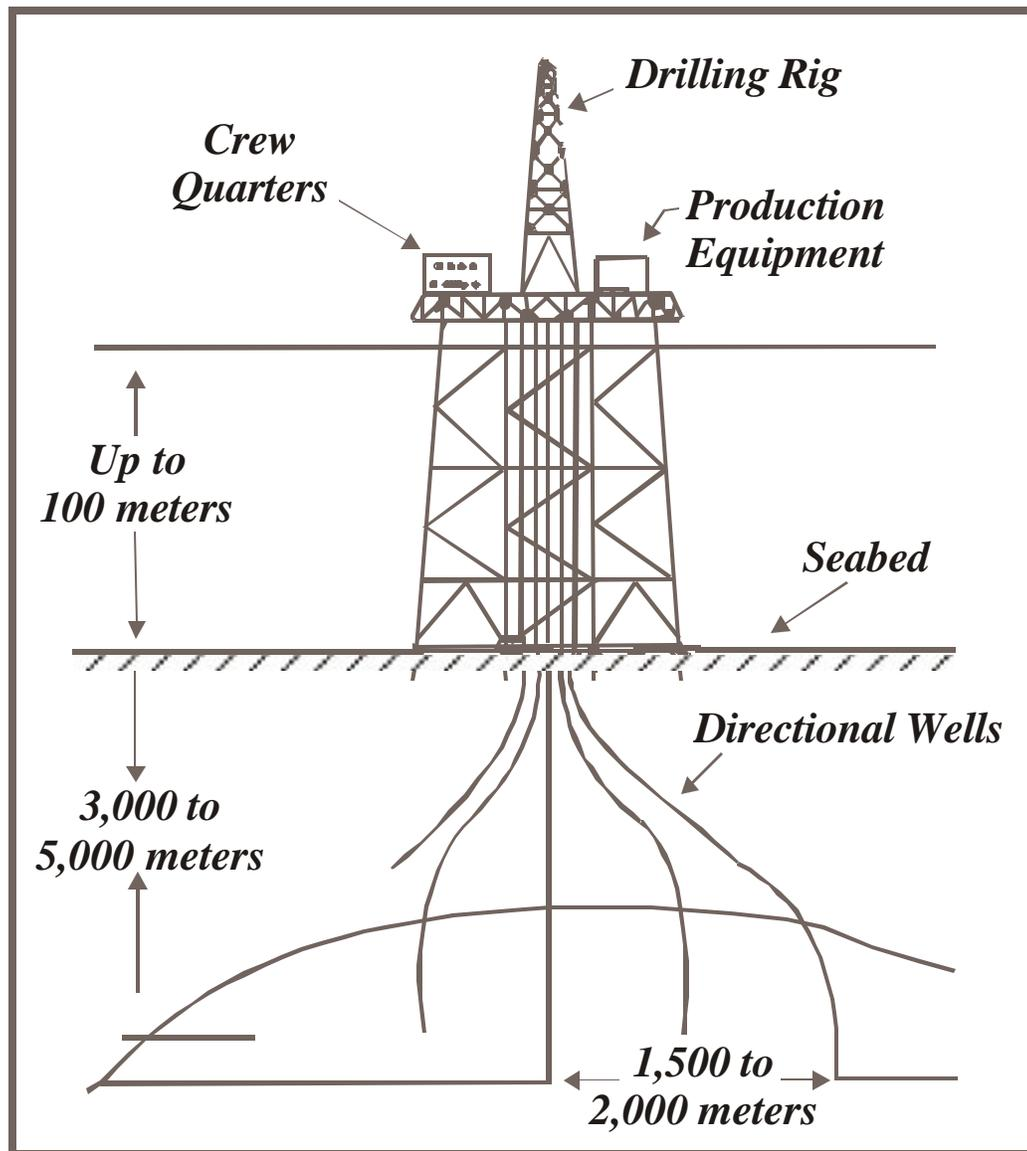

Figure 10.4 - Steel Tower Production Platform
Production of oil and gas offshore is similar to production onshore with the following major differences: (1) There is a need to provide some form of production platform; (2) Some of the production equipment must be installed on the seafloor instead of on dry land and; (3) Development wells are more often *directionally drilled* from the permanent platform in the offshore (Figure 10.4). These special needs create both enormous challenges and enormous costs.
Offshore platforms can be of a floating or fixed design. Fixed platforms, as the name suggests, are attached to the seabed (Figure 10.4). Floating platforms are held in place by some form of anchoring system or by a dynamic positioning system.
Fixed platforms have been built of both steel and concrete. Steel platforms (Figure 10.4) are simply steel tower structures resembling oversized transmission towers with drilling and production facilities mounted on top. They have been used extensively in the Gulf of Mexico, the Persian Gulf and the North Sea.